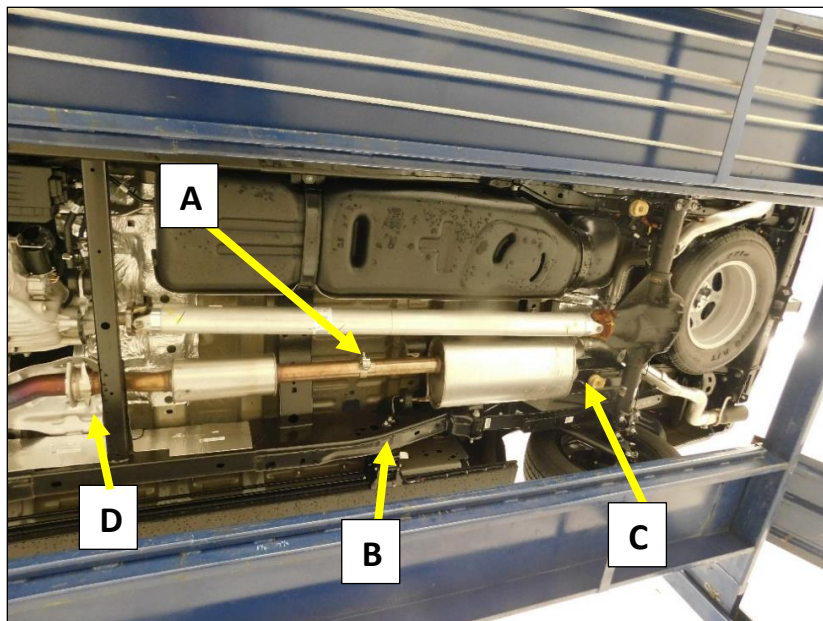

Figure 5
9. Loosen the clamp at the slip joint between the muffler and the resonator (**A**). **Fig. 5**
11. Remove the (x2) bolts at the muffler hanger on the frame rail (**B**). **Fig. 5**
12. Remove the bolt from the muffler hanger over the muffler and remove the hanger from the cross brace (**C**). **Fig. 5**
14. Remove the bolts from the flange at the resonator inlet pipe and remove the resonator (**D**). **Fig. 5**
2. Install the muffler hanger (B) **Fig. 5/7** on the frame rail in the same location it was removed.